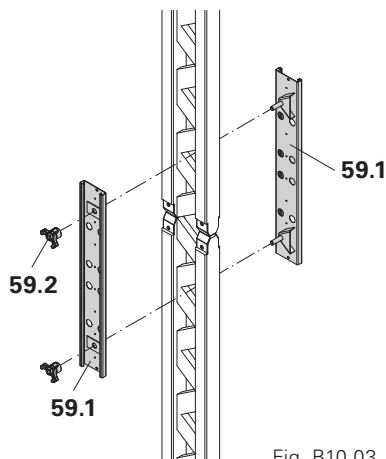

Fig. B10.03
3. Connect both parts of the splice and tighten with the triple wingnuts. (Fig. B10.03)